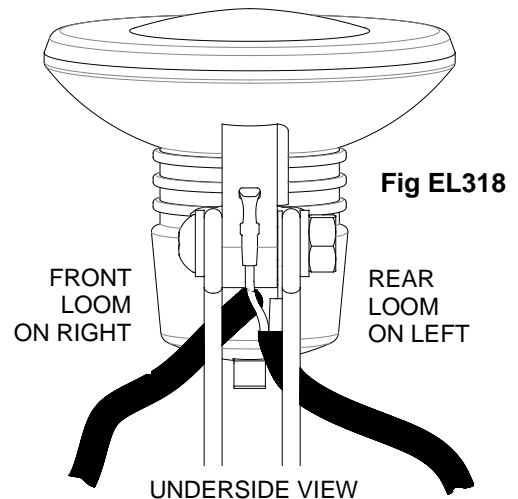

Fig EL318
Holding the lamp locally, push-on the 90 degree live connector firmly onto the tab so that it naturally trails rearwards. Gently separate the bracket arms and manoeuvre the lamp into position between them. At the same time, ensure that the earth eyelet is sandwiched between the lamp body and the inside of the left hand bracket arm. The eyelet sits better when the offset crimped portion is facing inwards (fig EL318). Pass bolt (S) through washer (W) and through the bracket and lamp from the right hand side.